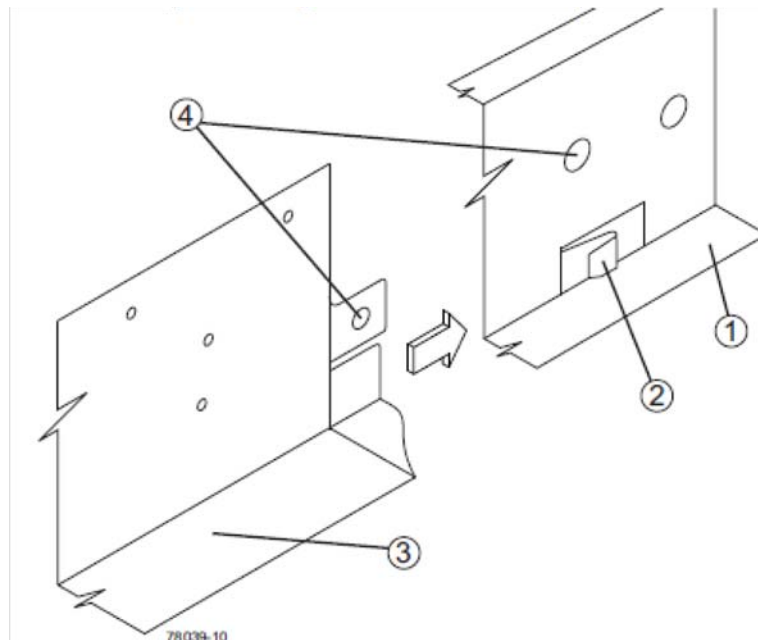

Figure 2-28 Sliding the Storage Enclosure into the Clip on the Mounting Rail
- The rear edge of the storage enclosure sheet metal fits into the clip on the mounting rail (reference Figure 2-28).